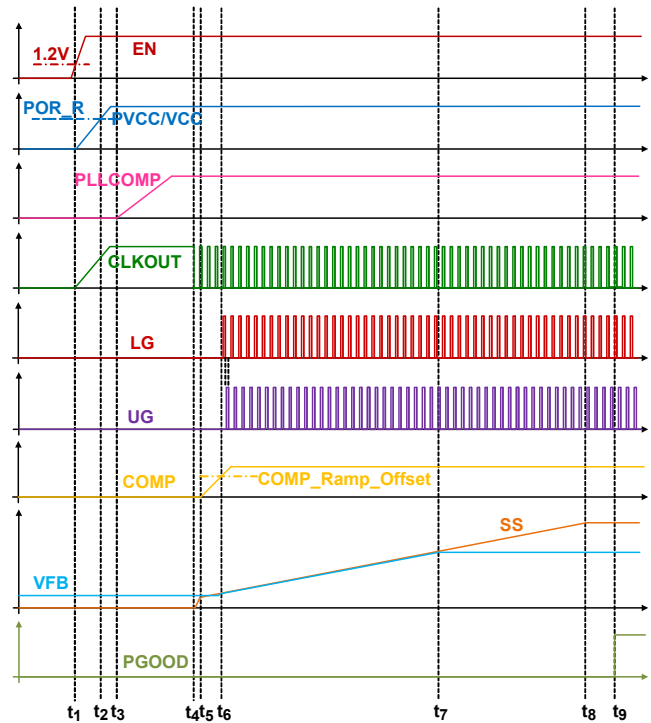

FIGURE 58. CIRCUIT INITIALIZATION AND SOFT-START
- There is no limit for the minimum voltage on the TRACK pin, but note the lower reference voltage and the lower voltage feedback regulation accuracy. Note the SS_DONE signal is checking $V_{REF_TRK} \geq 0.3V$ as one of the conditions (refer to Figure 58 on page 29 and t_g - t_d description on page 30). Also, for the boost converter, the regulated output minimum voltage is usually the input voltage minus the upper MOSFET's body diode drop, in which case, the corresponding voltage at FB voltage is the minimum effective voltage for the V_{REF_TRK} .
Prior to converter initialization, the EN pin voltage needs to be higher than its rising threshold and the PVCC/VCC pin needs to be higher than the rising POR threshold. When these conditions are met, the controller begins initialization and soft-start. Figure 58 shows the ISL78227 internal start-up timing diagram from the power-up to soft-start.
Assuming input voltage is applied to the VIN pin before t_1 and VCC is connected to PVCC, as shown on Figure 58, the descriptions for start-up procedure is elaborated in the following:
Diode emulation occurs during t_5 - t_8 (on Figure 58 on page 29), regardless of the DE/PHDRP operating modes (Table 2).